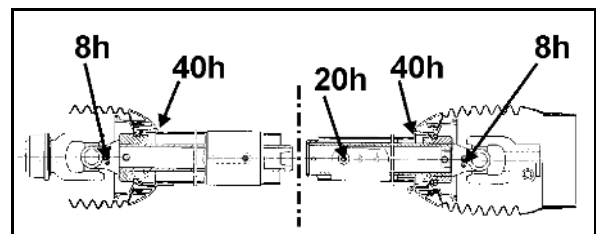

Fig. 94
1. Move the PTO shaft guard into installation position (Fig. 94).
The separately packaged **screws** M8 x 30 A2-70, are **replacement shear bolts** (Fig. 94/1) for fastening the universal joint fork of the PTO shaft to the flange of the gearbox input shaft. Always use grease when fastening the PTO shaft to the gearbox input shaft.